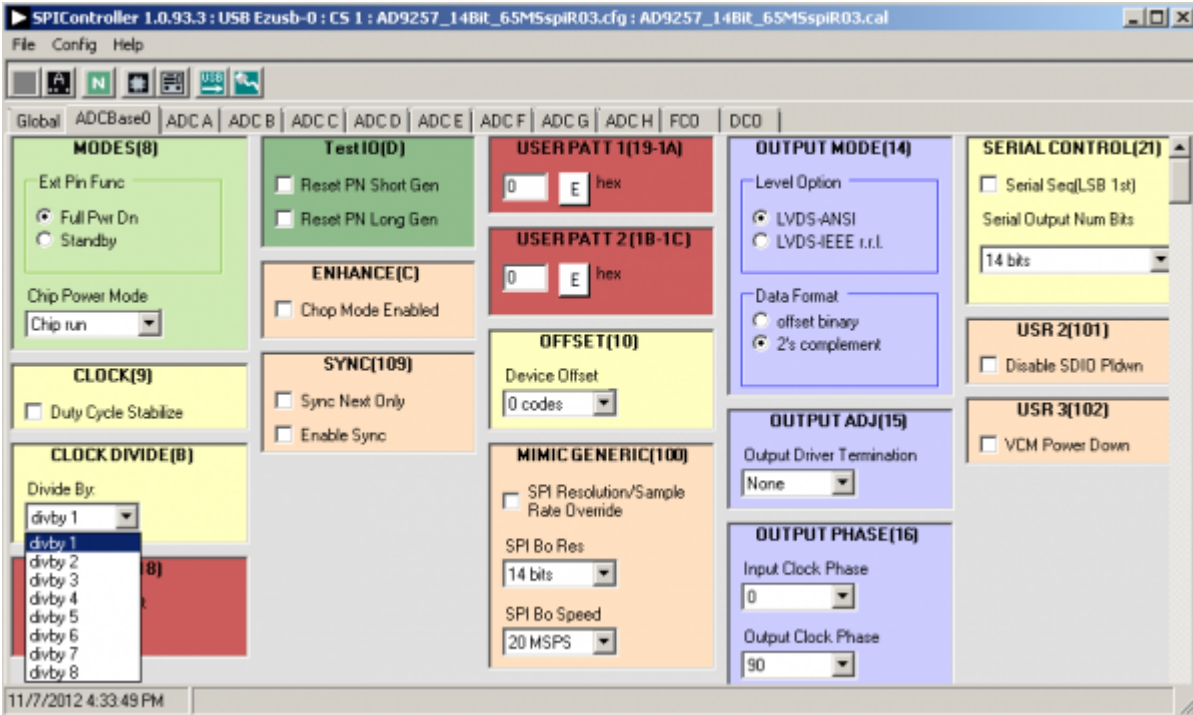

Figure 9.
- In the **ADCBase 0** tab of the **SPIController** window, find the **CLOCK DIVIDE(B)** box (see Figure 9), and the **MODES(8)** box (see Figure 10). If using the clock divider, use the drop-down box to select the correct clock divide ratio, if necessary. If there is any interruption of the ADC clock during power-up or during operation, a Digital Reset may be needed to re-initialize the ADC (Figure 10). For additional information, refer to the data sheet, the AN-878 Application Note, High Speed ADC SPI Control Software, and the AN-877 Application Note, Interfacing to High Speed ADCs via SPI.
- Note that other settings can be changed on the **ADCBase 0** tab (see Figure 9) and the **ADC A** through **ADC H** tabs (see Figure 11) to set up the part in the desired mode. The **ADCBase 0** tab settings affect the entire part, whereas the settings on the **ADC A** through **ADC H** tabs each affect the selected channel only. See the appropriate part data sheet, the AN-878 Application Note, High